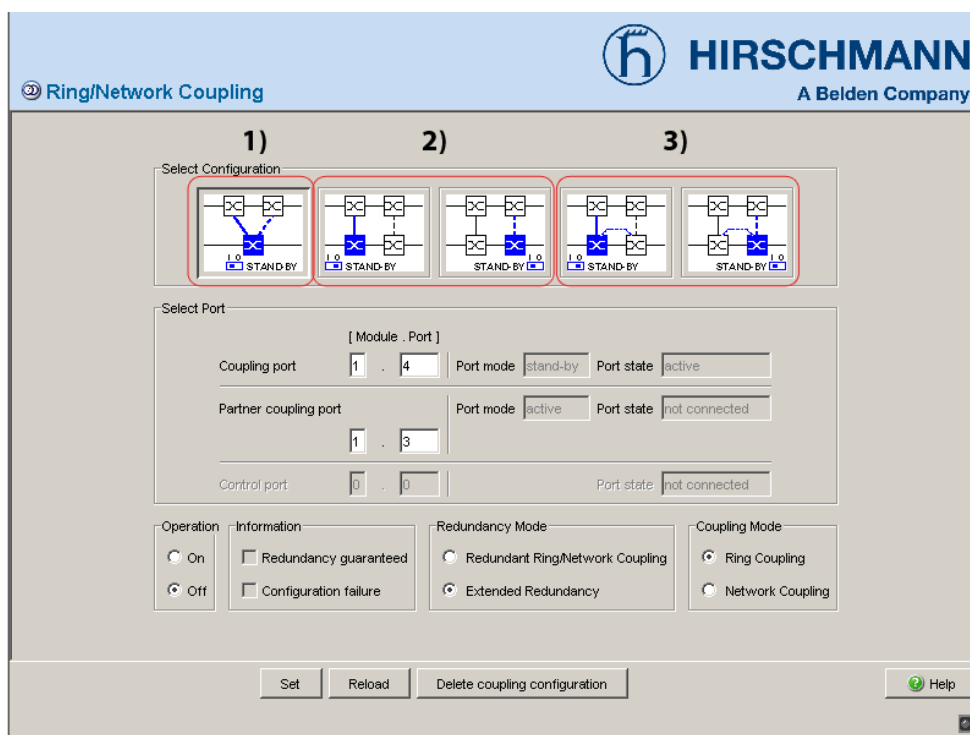

Figure 39: Selecting the configuration
- You first select the configuration you want: One-Switch coupling (“1”), two-Switch coupling (“2”) or two-Switch coupling with control line (“3”), (see fig. 39).